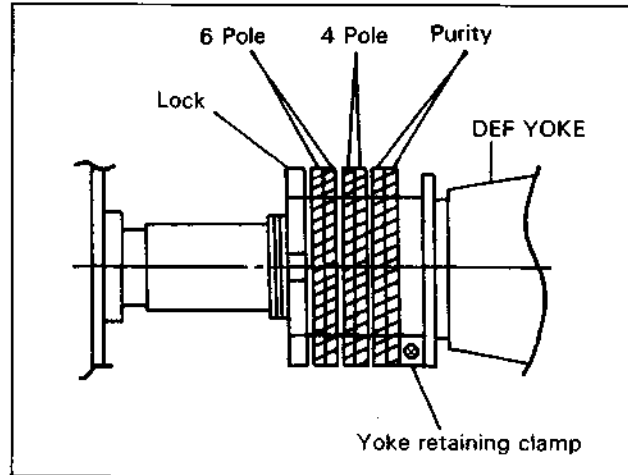

Fig. 6-1
2. As viewed from the back (See Fig. 6-1), turn the magnet lock counter-clockwise to loosen it.